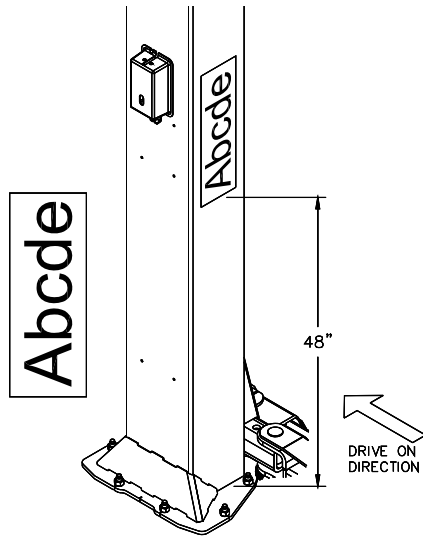

Fig 11 – Decal Placement
- 30) Apply the decal 48" from the top of the base plate, **Fig 11**.